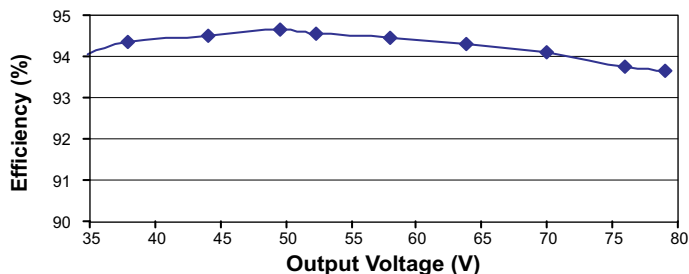
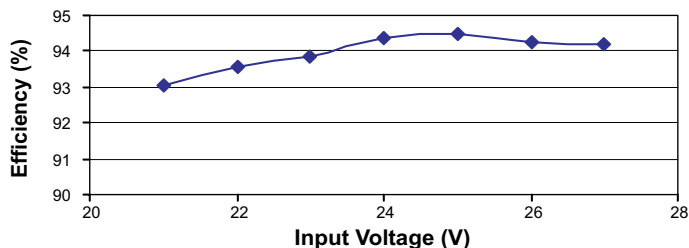

Fig. 1 Efficiency vs. Output Voltage
Fig. 2 Efficiency vs. Input Voltage
1. Efficiency: The efficiency of the converter at various LED string voltages are shown in Fig.1 (measured at the nominal input voltage of 24V). Fig.2 shows the full load efficiency of the converter at varying input voltages. The minimum efficiency of 93% for the converter occurs at 21V input and full load output.